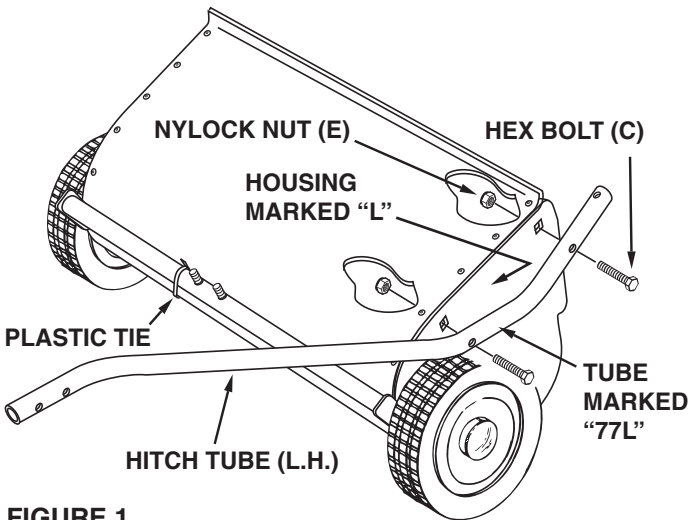
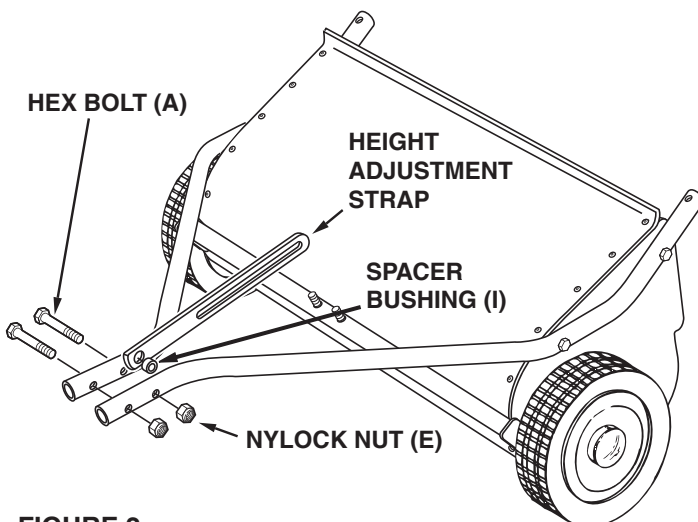
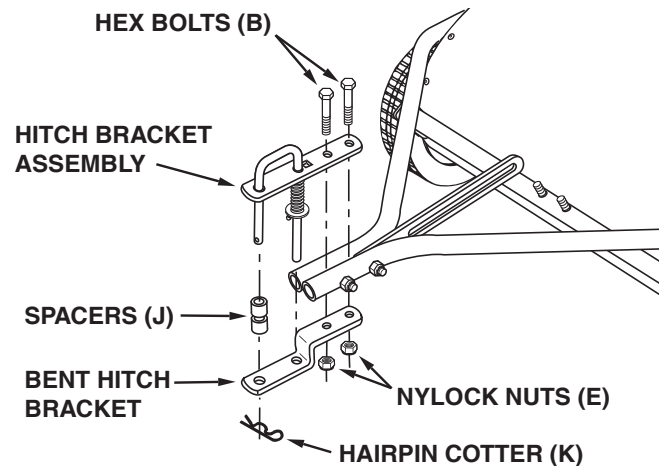

FIGURE 1
FIGURE 2
FIGURE 3
- The hitch tubes are stamped with a "77L" for the left tube and a "76R" for the right tube. The sweeper housing is marked with an "L" on the left with side and an "R" on the right side. See figure 1.
- Hold the left hitch tube against the left side of the sweeper so that the "77L" on the tube faces away from the sweeper. Attach the hitch tube using two hex bolts (C) and nylock nuts (E). Repeat for the right hitch tube, but with the "76R" facing in toward the right side of the sweeper. **Do not tighten yet.** See figure 1.
- Remove the plastic tie that fastens the height adjustment tube to the front of the sweeper housing. See figure 1.
- Place the spacer bushing (I) into the hole in the height adjustment strap. Place the strap and bushing between the hitch tubes, aligning them with the rear hole. Fasten the hitch tubes together, with the strap and bushing between them, using two hex bolts (A) and nylock nuts (E). **Do not tighten yet.** See figure 2.
- If the tractor hitch is less than 10" above the ground, place the bent hitch bracket underneath the hitch tubes and place the hitch bracket assembly on top of the hitch tubes. Insert two hex bolts (B) through the brackets, with the rear hex bolt between the cross bolts in the hitch tubes. Secure the hex bolts (B) with two nylock nuts (E). See figure 3. **Do not tighten yet.**
- Assemble the two spacers (J) onto the hitch pin and secure the pin with the hairpin cotter (K). See figure 3.
- At this time **tighten** the four bolts in figure 1 that fasten the hitch tubes to the sweeper housing. Next, **tighten** the two bolts in figure 2 that fasten the ends of the hitch tubes together. Finally, **tighten** the two bolts in figure 3 or 4 that fasten the hitch brackets to the hitch tubes.